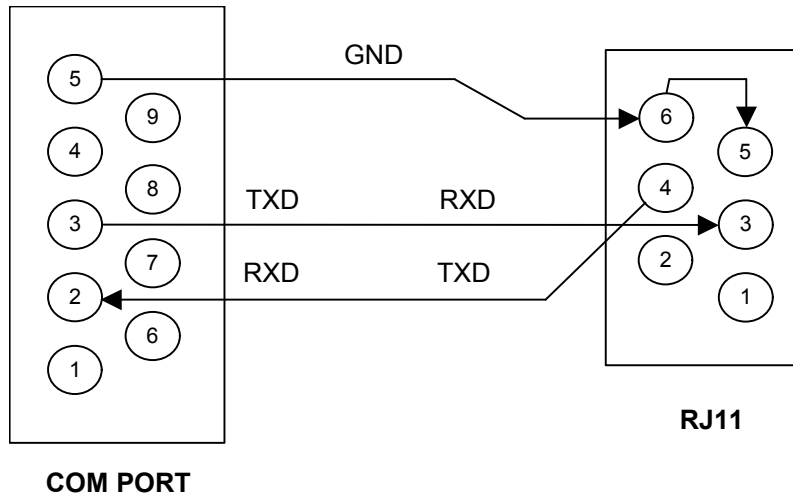

Figure 15: RJ11 COM Port Connection
Figure 15 illustrates the connection between the RJ11 COM port of the EP4848 box and a COM port of a PC
- Step 1.** Use a cable which has 2 interfaces as in Figure 15